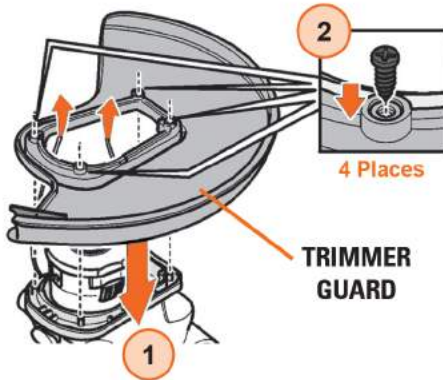

Figure 1
The trimmer guard is an essential part of the line trimmer and must ALWAYS be used to prevent damage to the trimmer and injury to the operator. The guard is not attached to the trimmer when it is delivered to avoid damage in transit. To attach the guard, loosen and remove the 4 screws from the underside of motor housing (see Figure 1). Place the guard on the motor housing (1) and align the bores vertically. Screw in the 4 screws and tighten (2).